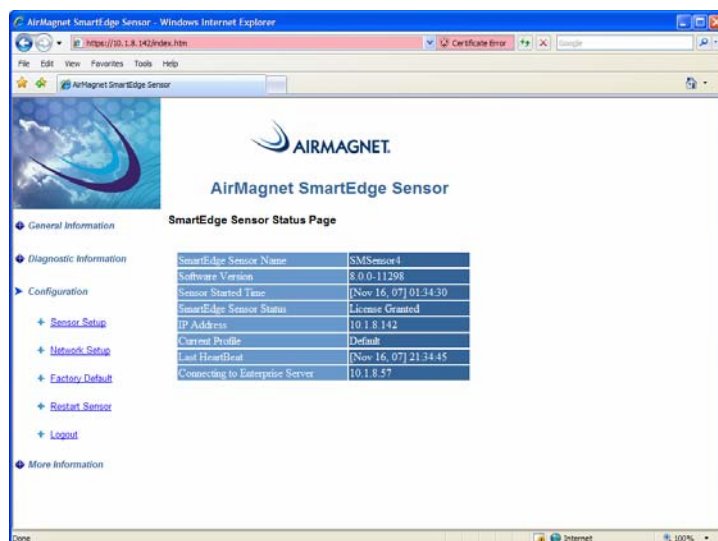

Figure 2-16: AirMagnet SmartEdge Sensor page (2)
- 13) From the left-hand side of the page, click **Configuration**. The Sensor Information Page refreshes. See Figure 2-16.